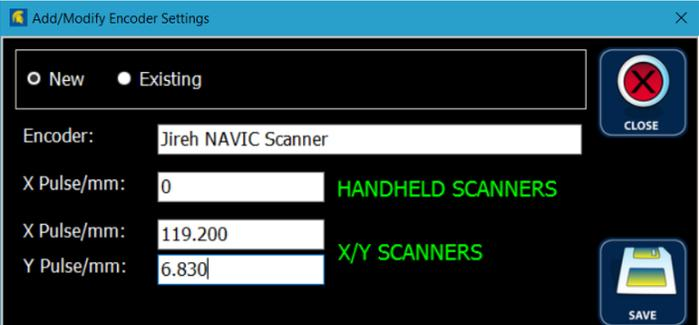

Figure 1 – NAVIC Scanner Settings Window
4. To add the scanner, select the New radio button and enter the information as shown below in Figure 1. Setting for the X-Pulse is 119.200 Pulse/mm and the Y-Pulse is 6.830 Pulse/mm.